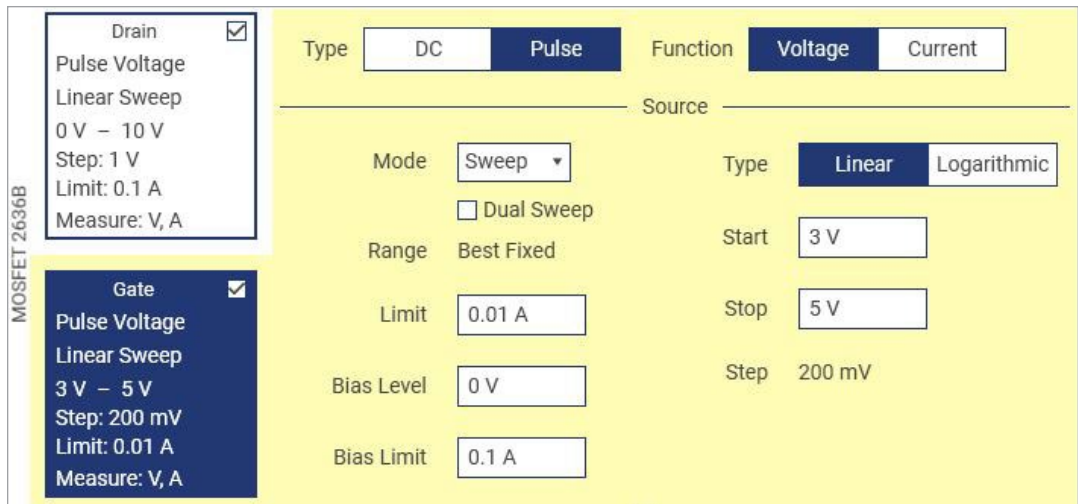

Figure 13: Apply gate source type and output settings.
3. Apply the following Gate source changes (illustrated in Figure 13):